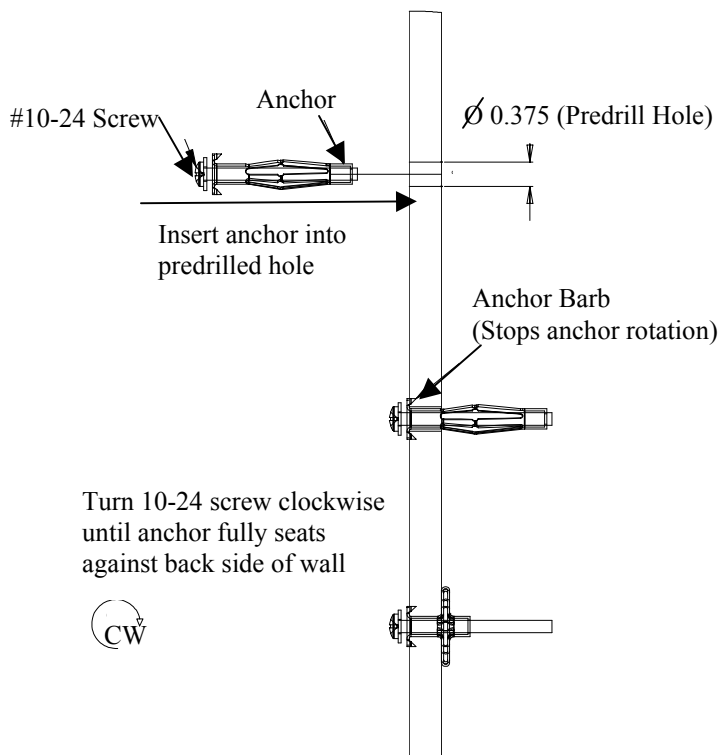

Figure 3
3. Install an anchor bolt in one of the pilot holes and tighten anchor bolt until it is fully seated (see Figure 3).